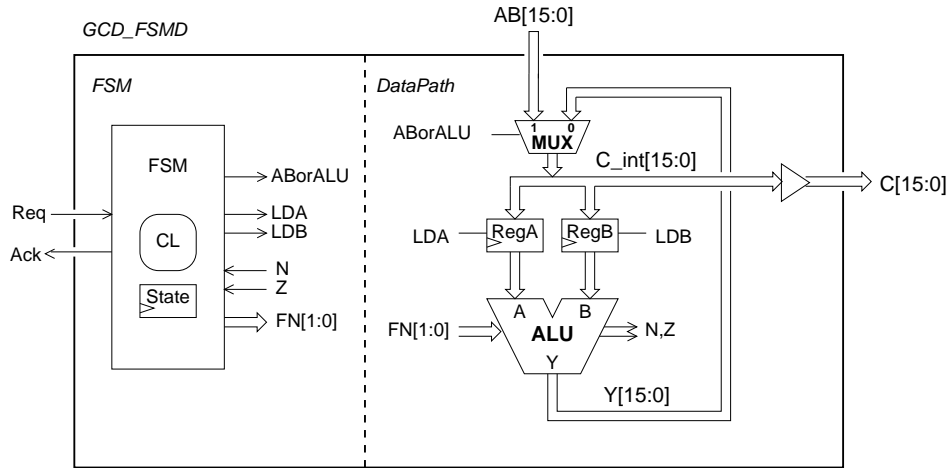

Figure 2: A possible FSMD-style implementation of the GCD-module, using two registers and one ALU.
Looking at the algorithm, it is obvious that a possible implementation could involve a finite state machine controller and a datapath containing two registers (A and B), an ALU and one or more busses/multiplexors to implement the required signal flow. One example of such a possible FSMD-style (Finite State Machine with Data-path) implementation is shown in Figure 2 and Table 1.
- Assume that the data-path is implemented as shown in in figure 2, that A, B and C are 16-bit unsigned integers, and that the technology-primitives available on the FPGA are D-flip-flops and 6-input LUT's. Estimate how many flip-flops and LUT's are needed to implement the data-path? Briefly explain your estimate. Hint: this is not a difficult question – you do not need to perform a detailed implementation, a LUT can implement any 6-input Boolean function.
Let us now continue the design of the GCD-module, and let us aim for a simple implementation using a finite state machine controller and a datapath with the smallest possible amount of hardware resources: one ALU, two registers (for A and B) and some selection circuitry to provide data-pathways between these resources. Such a datapath was introduced previously and shown in Figure 2.
We will now explore VHDL's capabilities to express structure, i.e., schematics. Your task will be to develop a structural implementation of GCD using a finite state machine and a structural implementation of the data path as shown in figure 2. You will have to write some new VHDL files from scratch, in which you define the new entities and architecture bodies. The structural architecture of the entity `gcd` must consist of two entities `FSM` and `datapath`, and the structural architecture body of `datapath` must use instances of the following components:
- `alu` : 16-bit ALU with the functions described in Figure 2.
- a) Develop a structural VHDL model of the system shown in figure 2. This involves:
(1) A new structural architecture body for `gcd_module` consisting of two entities/-components `FSM` and `datapath`. (2) A definition of the `datapath` entity. (3) A structural architecture body for the `datapath`.